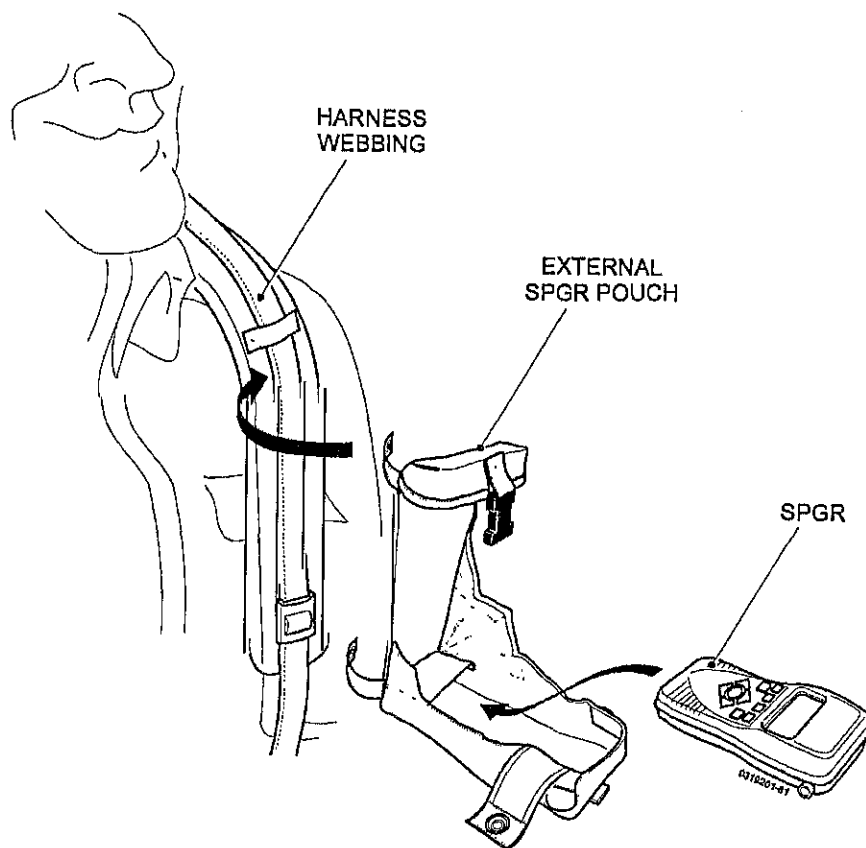

Fig 1 External SPGR pouch
- 1 The external SPGR pouch (Fig 1) can be strapped to the operator's chest harness webbing to provide a hands-free view of the SPGR display when operated independently from the radio station.